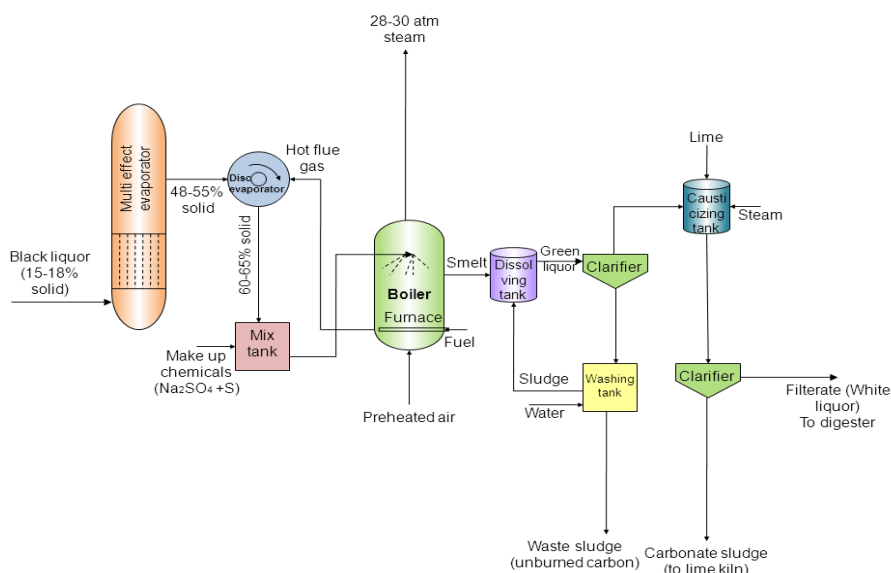

Figure 27.1 Flow sheet of chemical recovery from black liquor
27.2 Functional role of various units (Figure 27.1)